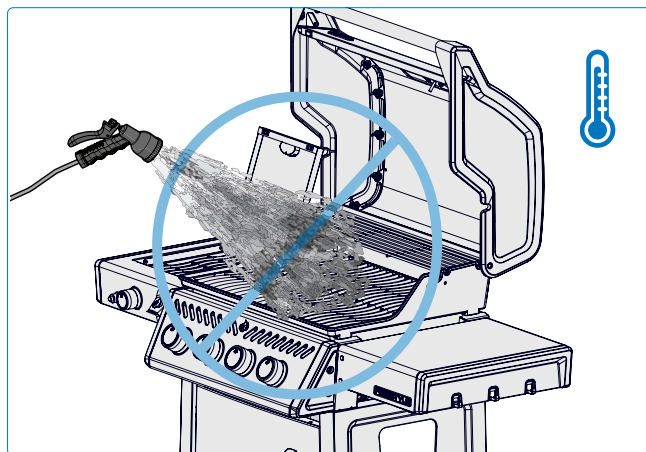

Fig. 28
1. Never douse a flame or control flare-ups with water (**Fig. 28**)